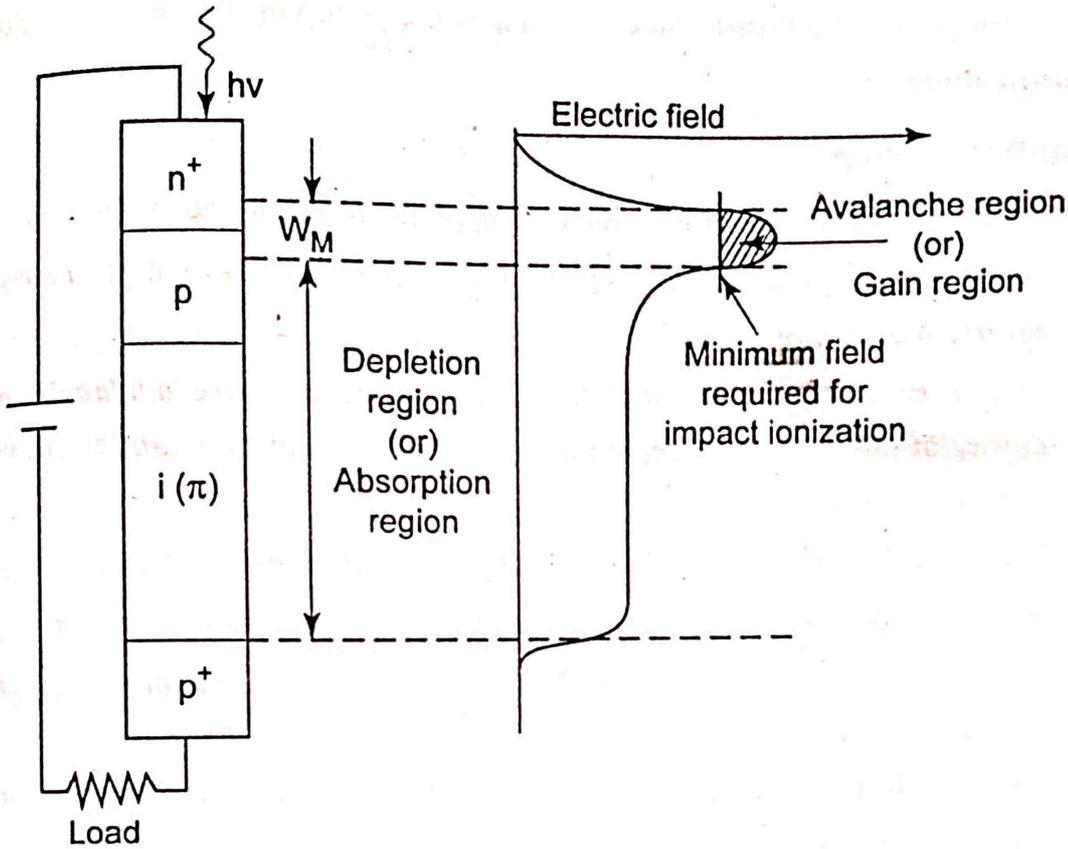

Fig 7.11 Avalanche photodiode showing high electric field (gain) region
- ✦ A commonly used structure for achieving *carrier multiplication* with very little excess noise is the *reach-through construction* shown in Fig 7.11.